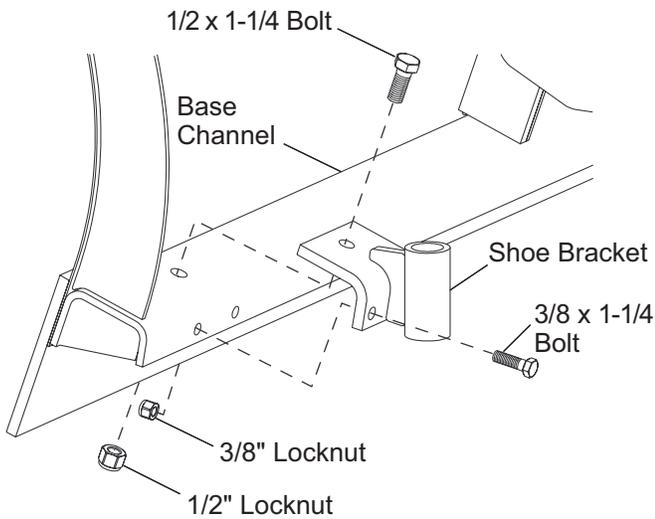

Figure 1
1. Position the shoe bracket to the blade base channel as shown in Figure 1. Align holes in shoe bracket with holes in base channel.
2. Loosely assemble each shoe bracket with two 3/8" x 1-1/4" bolts and 3/8" locknuts through back of bracket and base channel and one 1/2" x 1-1/4" bolt and 1/2" locknut through the top hole in bracket and base channel. Torque 1/2" fasteners to 75 foot-pounds and 3/8" fasteners to 30 foot-pounds torque. (See Figure 1.)